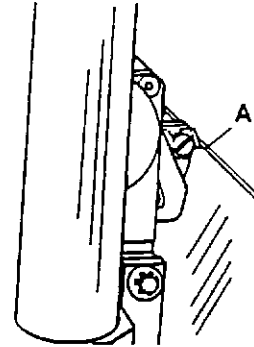

Figure 18
4. Grasp the CUTTING HEAD with your right hand and depress the SHORT THUMB LEVER with the right thumb. Raise the CUTTING HEAD and release the SHORT THUMB LEVER so the tip of the scoring blade rests on the surface of the plastic as close as possible to the upper edge. It should rest about 1/32" from the top edge. See (A) Figure 18.